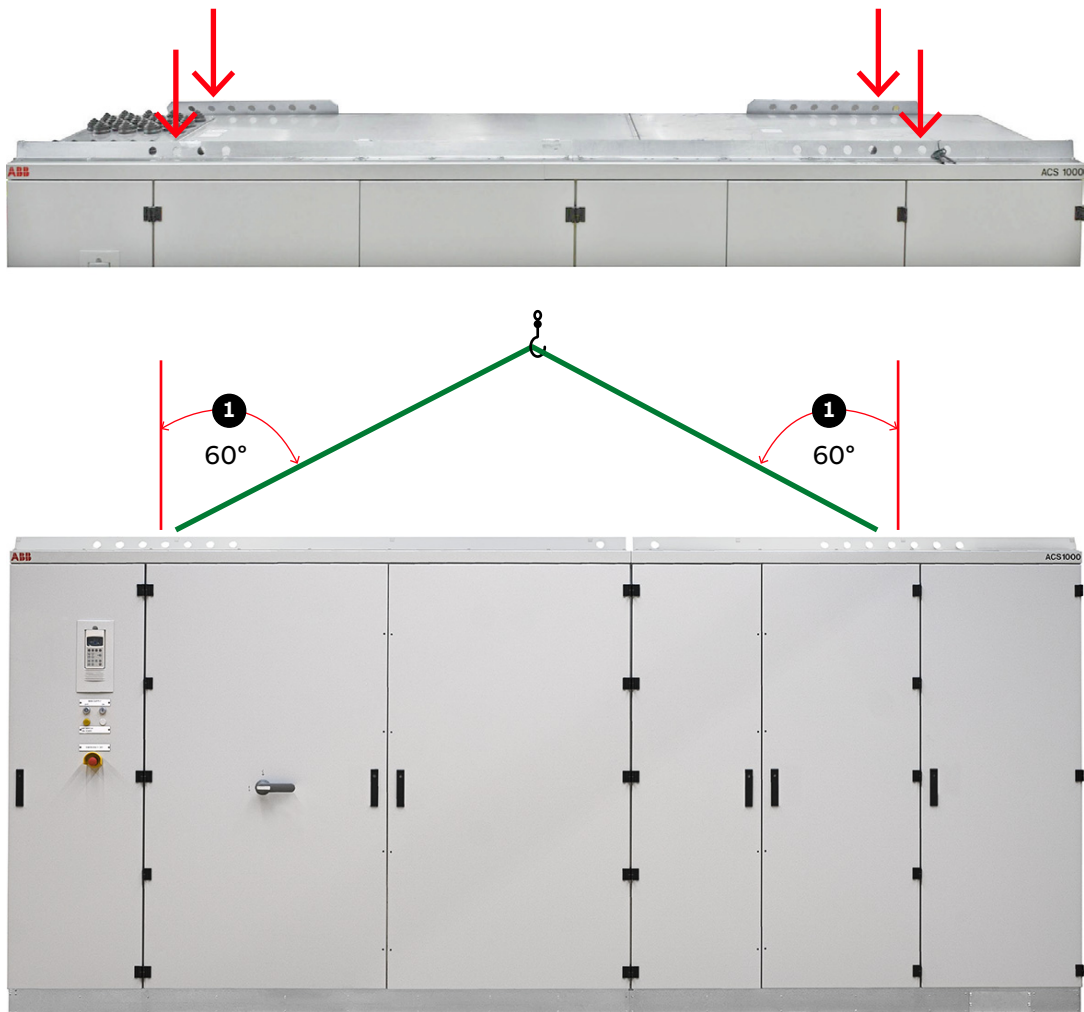

Figure 5-1: Transporting the cabinet by crane - standard case
- Attach a sling to the outer holes of the rails (arrows in Fig. 5-1).
- Maximum slope angle is 60° (1 in Fig. 5-1).